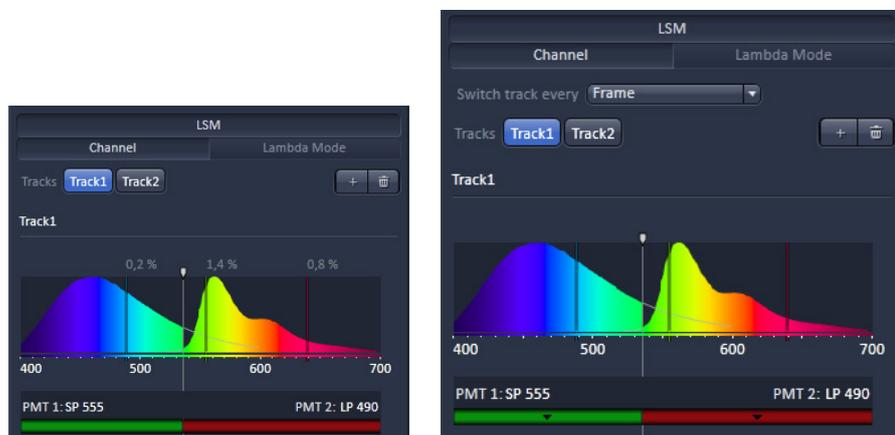

Fig. 51 Beam path tool with **Show all** function deactivated and activated
(1) Light Path
- Operation of the beam path tool with the **Show all** function deactivated  (Fig. 51, left):
- Operation of the beam path tool with the **Show all** function activated  (Fig. 51, right):